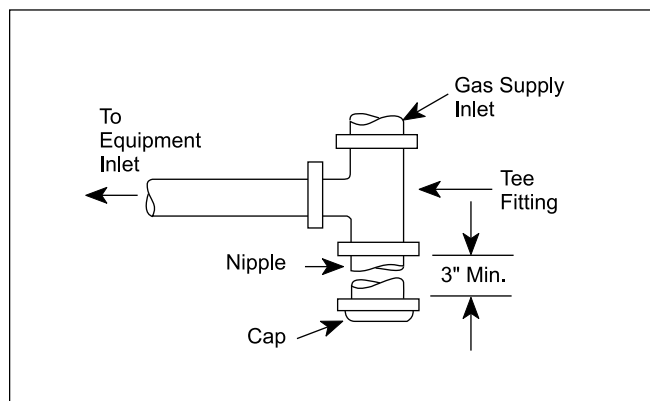

Figure 5. T-Fitting Sediment Trap Installation.
3. A trap (drip leg) must be provided ahead of the gas controls (see Figure 5). Where required by code, provide a second manual gas shutoff valve. Do not remove manual valve furnished with the heater.